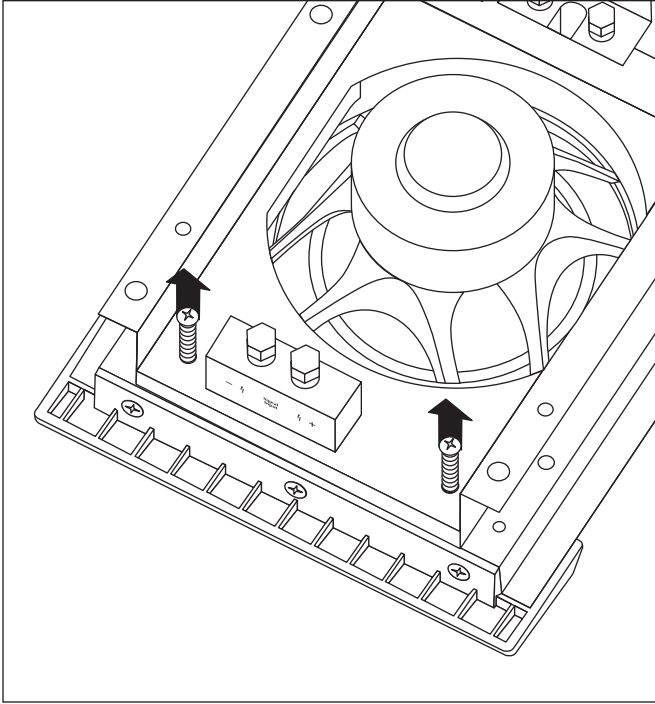

Figure 14. Removing the end caps step 2.
- 2 Using a Phillips head screwdriver remove 2 screws from the back/bottom of the Passage (see figure 14).